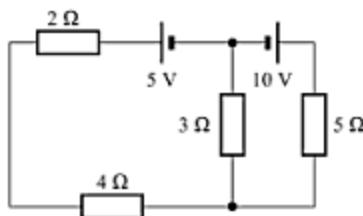

Fig. 3.72
13. Determine the current through the 3Ω resistor in the circuit shown in Fig. 3.72, by using mesh analysis.